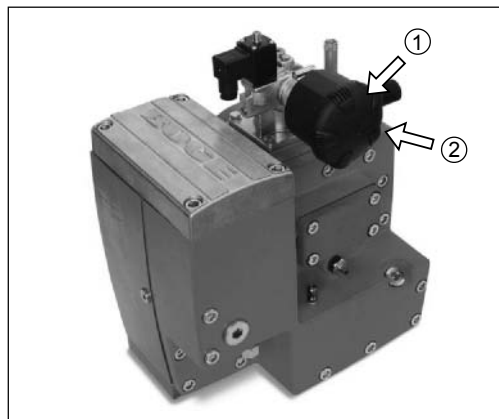

Fig. 5.2: Changing the suction filter
- Remove lid ① of the filter housing (Fig. 5.2).
- Remove filter cartridge ② (Fig. 5.2).